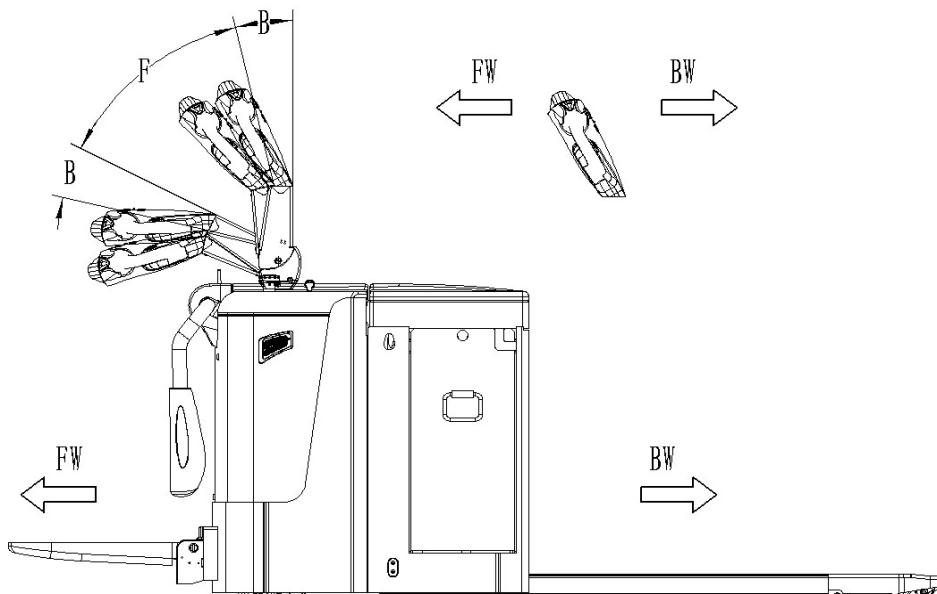

Fig. 14: Operating direction
After starting the truck by turning on the key switch (18), move the tiller to the operating zone ('F', fig.14).
Turn the accelerator button to the desired direction forward 'Fw.' or backwards 'Bw.'(fig. 14).